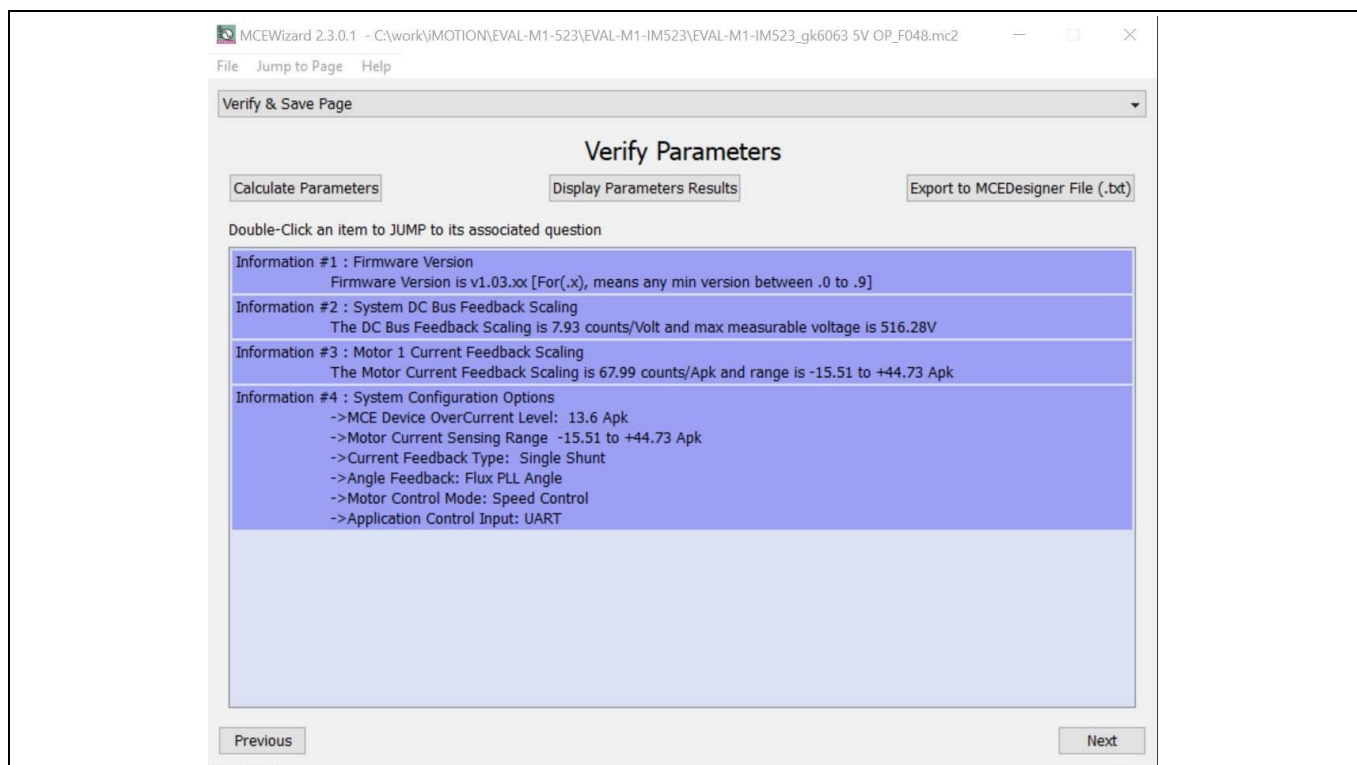

Figure 6 MCEWizard's Verify & Save page
4. After setting the system and operating parameters, go to the Verify & Save page and click **Calculate Parameters**. If no errors are reported, save the drive parameter set into your project directory by clicking **Export to MCEDesigner file (.txt)** (see Figure 6); if an error message appears, double-click the error message (highlighted in RED) and adjust the erroneous parameters. This drive-system parameter file is later used by the MCEDesigner (step 9.)